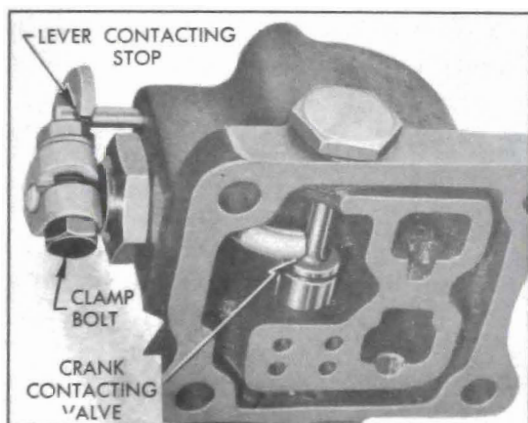

Figure 5-66—Valve Operating Lever Adjustment
12. Adjust operating lever on crank so that lever contacts its stop and the crank contacts the valve without depressing the spring, then tighten the clamp bolt. See figure 5-66.